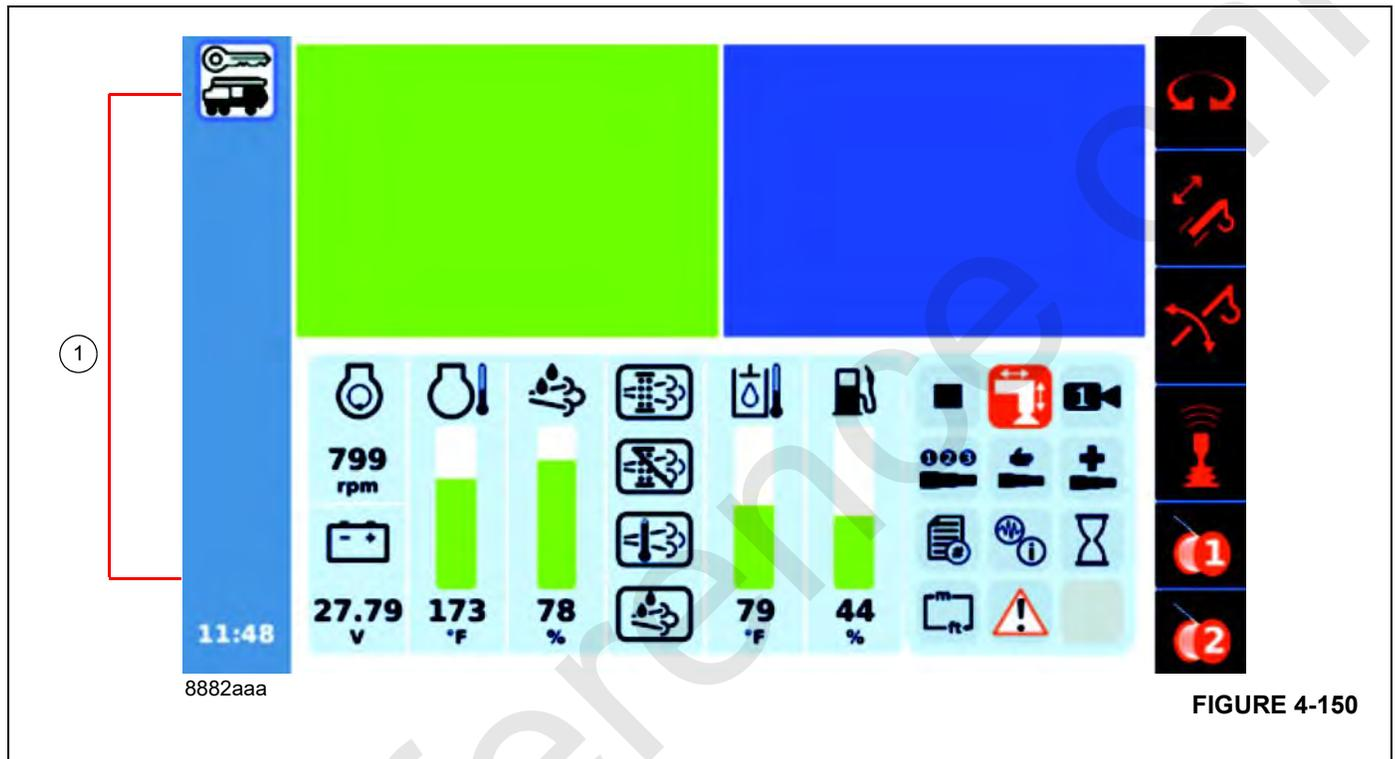

FIGURE 4-150
The Alerts Area of the ODM Main Screen shows caution and warning alerts when a crane system is not operating normally. The following list identifies all possible alerts that can appear in the Alerts Area (1), (Figure 4-150).